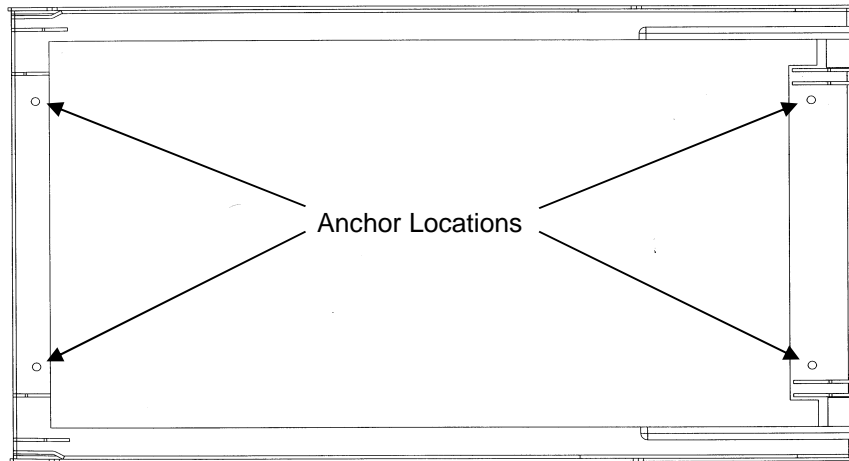

fig.3
After determining the location of the lift, mark the floor where anchor holes are to be drilled (see fig.3).
*NOTE: The lift has (4) anchor points (see fig.3).*
*NOTE: Fig.3 shows only lift bottom pan for clarity.*